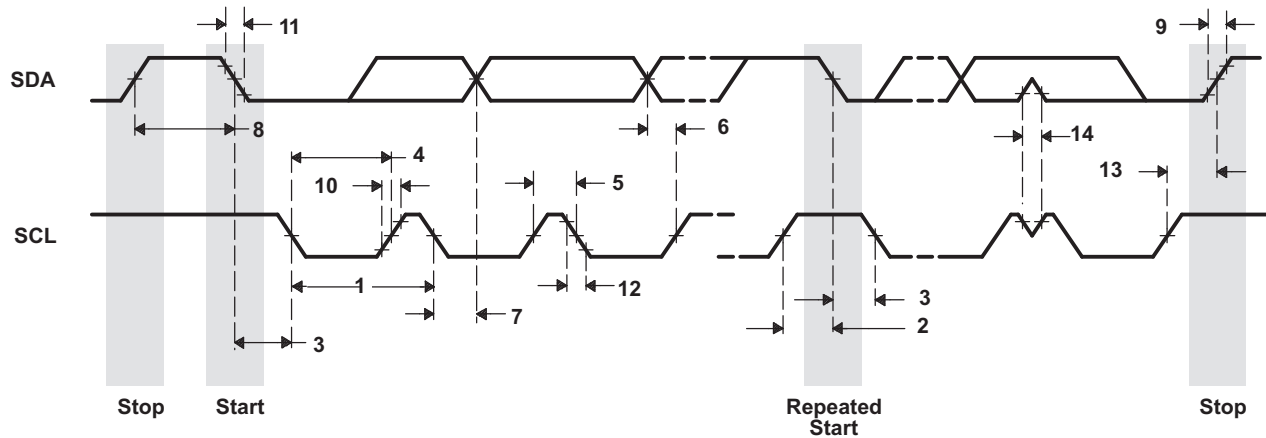

Figure 6-22. I2C Receive Timings
**Table 6-21. Timing Requirements for I2C Timings(1) (see Figure 6-22)**